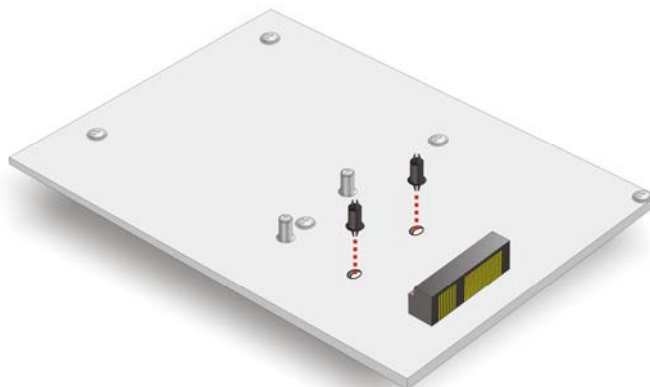

Figure 4-19: Install the Supplied Plastic Shafts
Step 2: **Install the supplied plastic shafts.** Insert the supplied plastic shafts to the screw holes on the motherboard (**Figure 4-19**). Press the plastic shafts down until they clip into place on the motherboard.